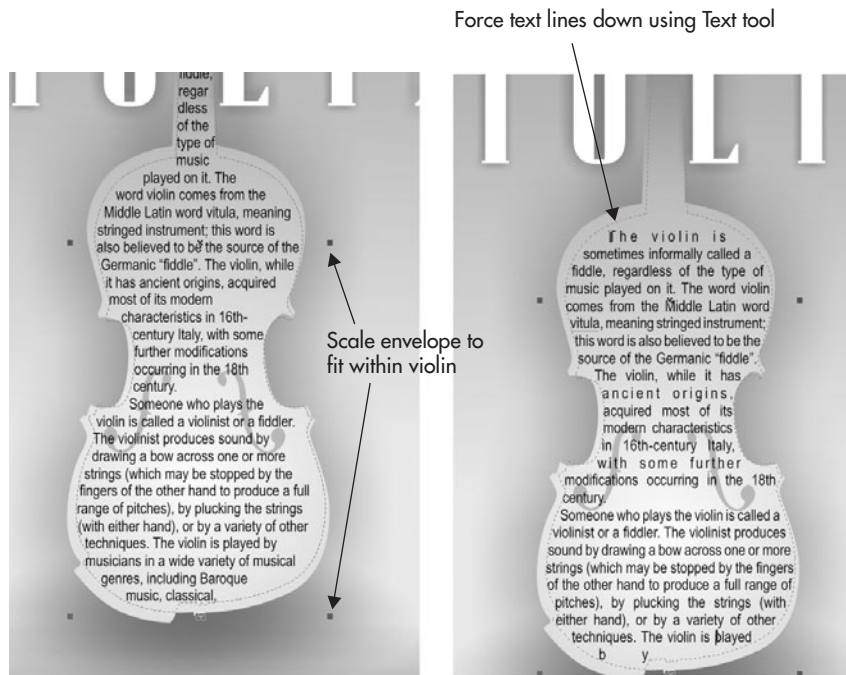

FIGURE 20-7 Perform a little manual editing to make the envelope text fit within the violin drawing.
6. With the Text tool, insert your cursor at the beginning of the paragraph, and then press ENTER to kick the text down so none of it is in the neck of the violin, which looks awkward, reads terribly, and makes it hard to play the instrument. See Figure 20-7 as a reference for where your composition should be now.